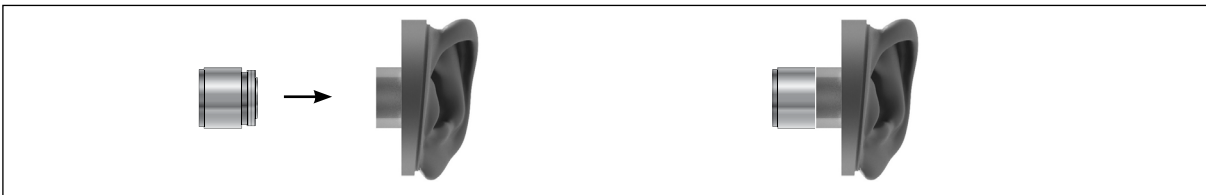

Fig. 6. The pinna is screw-mounted on the RA0045 Ear Simulator. For clarity, preamplifier and cable are not shown.
3. Screw the Pinna onto the Ear Simulator, see Fig. 6